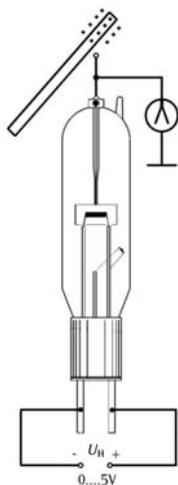

Fig. 1a Circuit set-up for demonstrating the Edison effect using an electroscope
- Connect the circuit as shown in Fig. 1a/b.